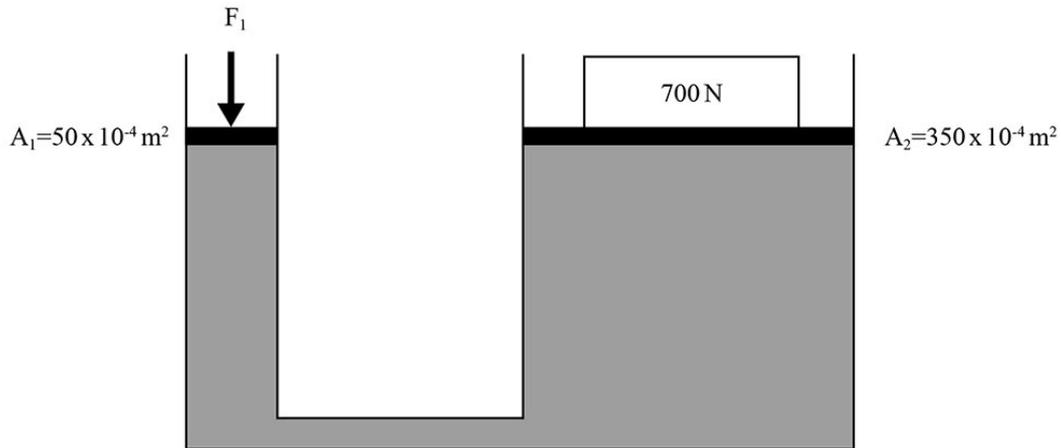

Fig. 5
- 5 (a) Fig. 5 shows a hydraulic lift designed to displace a 700 N load by 15 cm on a $350 \times 10^{-4} \text{ m}^2$ plate.